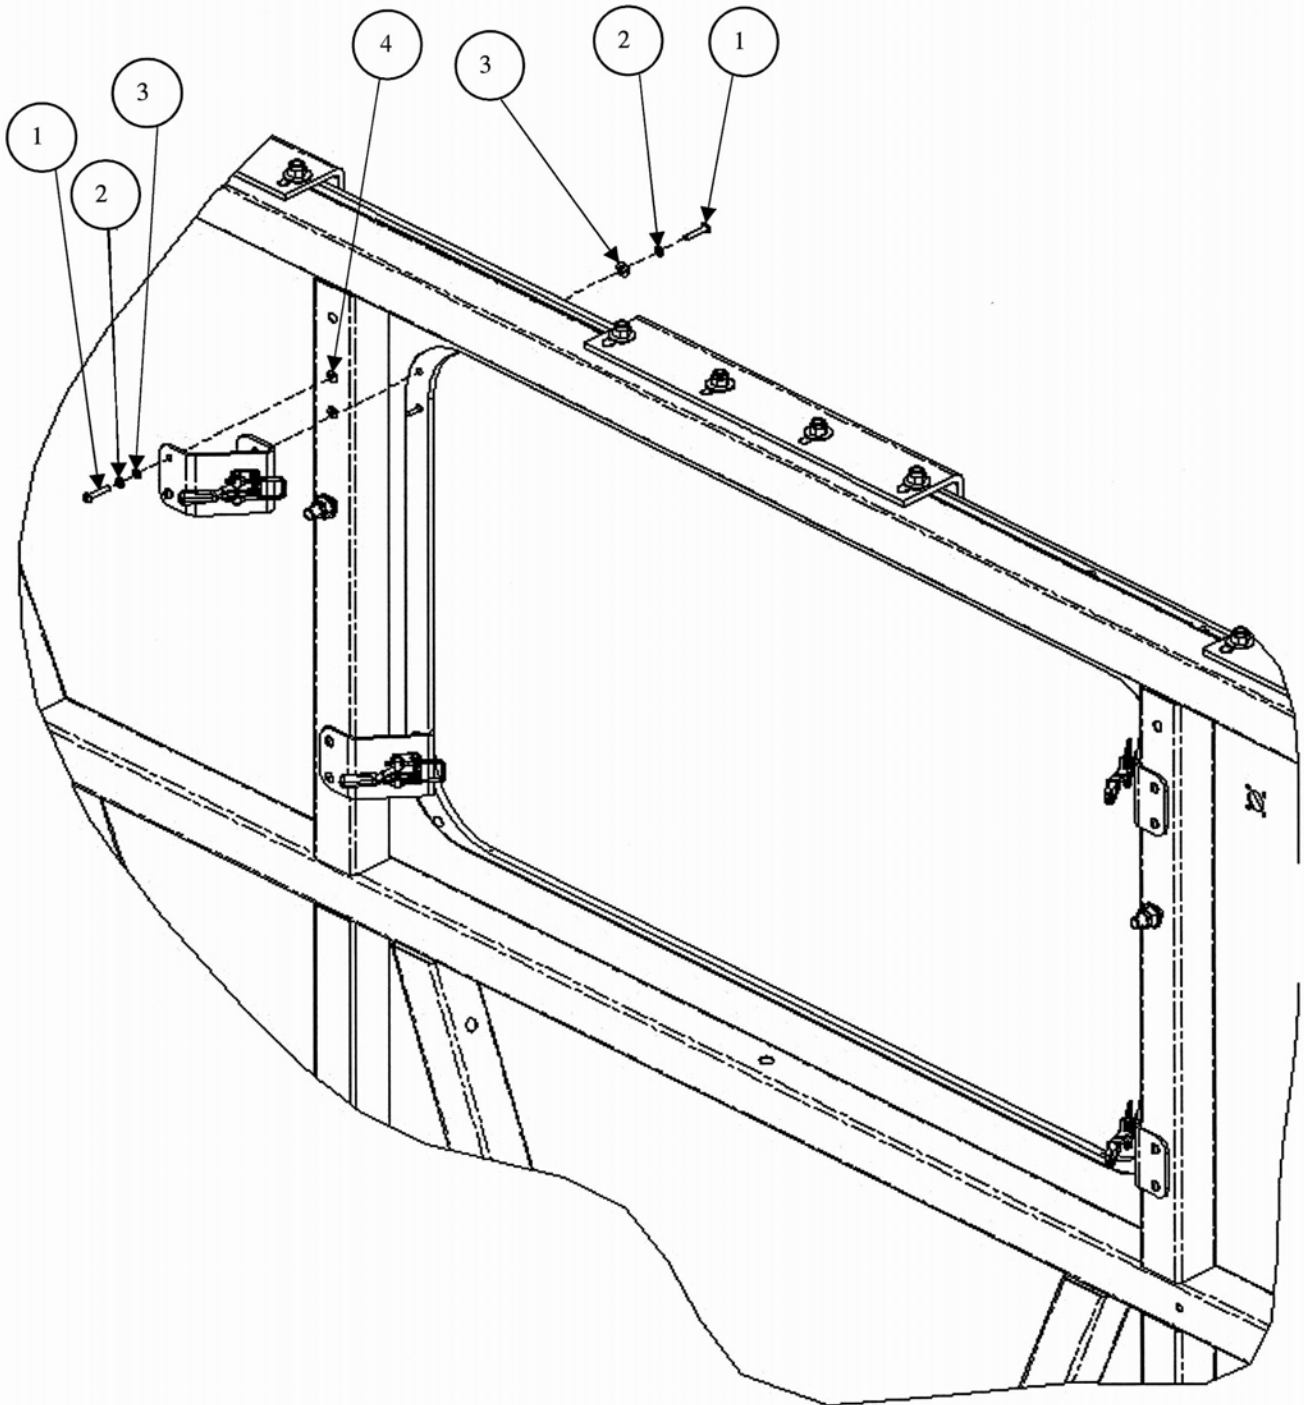

Figure 3-86. Escape Hatch Mount Assemblies Installation.
3. Install escape hatch mount assemblies as follows (see Figure 3-86):
- a. Install four escape hatch mount assemblies onto four corners of opening in rear panel and secure each with two screws (1), lock washers (2), and flat washers (3). Tighten but do not torque screws.
- c. Remove four escape hatch mount assemblies by removing two screws (1), lock washers (2), and flat washers (3) from each.
- e. Install eight threaded inserts (4).
- f. Re-install four escape hatch mount assemblies onto four corners of opening in rear panel and secure each with four screws (1), lock washers (2), and flat washers (3). Torque screws to 32 lb-inch.